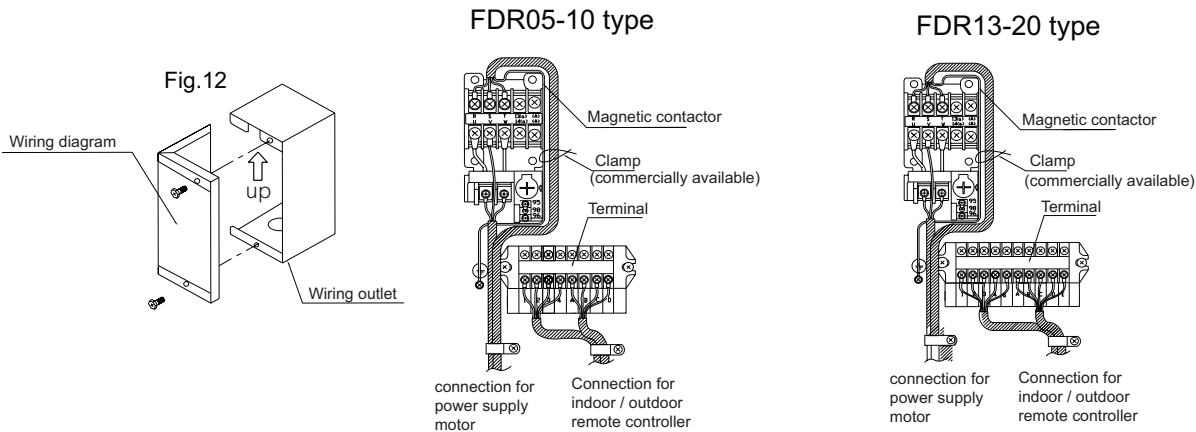

Fig.13
- For connection between the power supply and the motor, refer Fig.13 on page 8. Connect the wiring to the corresponding phase on the magnetic contactor.
- For connection between the indoor/outdoor remote controller, refer to Fig.13 on page 8. Use the corresponding numbers on the outdoor unit to connect the outdoor wires to the indoor terminal. Refer to the manual attached to the remote controller (optional) and the wiring diagram for the indoor unit.